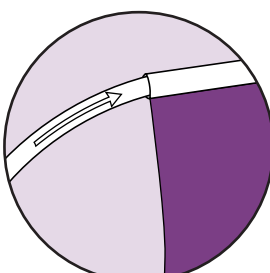

Fig 6.
6. Slide the sleeve of the flag over the curved tube and down onto the main pole. (see fig 6)